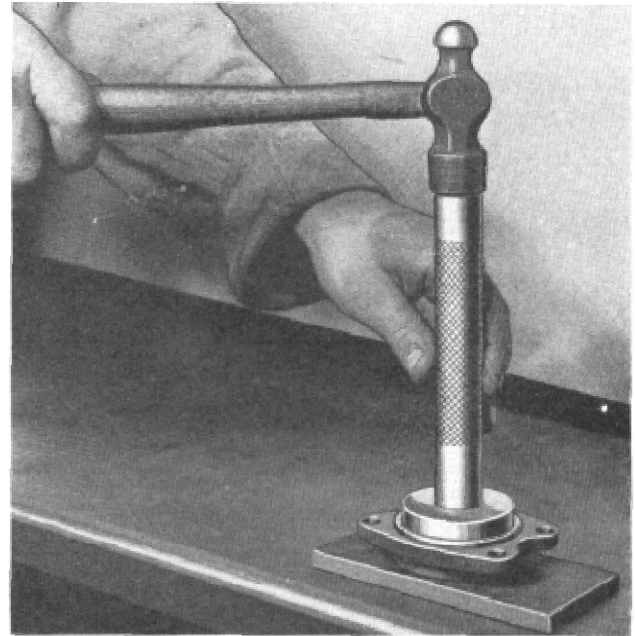

Figure 2
(4) Remove 4 nuts (44) holding wheel bearing adjusting caps (39) and shims (42) and take off caps. To renew adjusting cap oil seal:
(5) Remove old oil seal assembly (40) from cap (39) and install new one, using bearing cap oil seal replacer J-353-1 (Fig. 2).